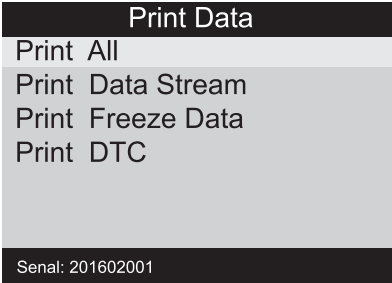

Figure 5.2
4) Use the **UP/DOWN** or **LEFT/RIGHT** scroll button to select **Print Data** from **Main Menu** in the scan tool , and press the OK button. (Figure 5.2)